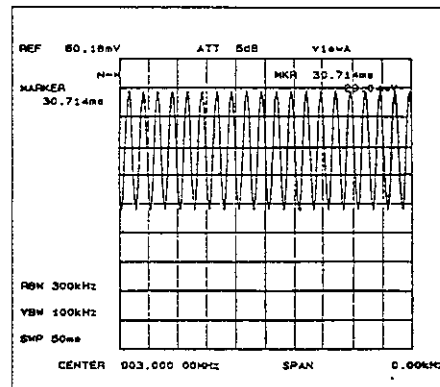

Figure 5-15 Reading  $E_{\text{min}}$
- ⑪ Set the marker to the minimum value of the waveform, and read its  $E_{\text{min}}$  level (Figure 5-15).